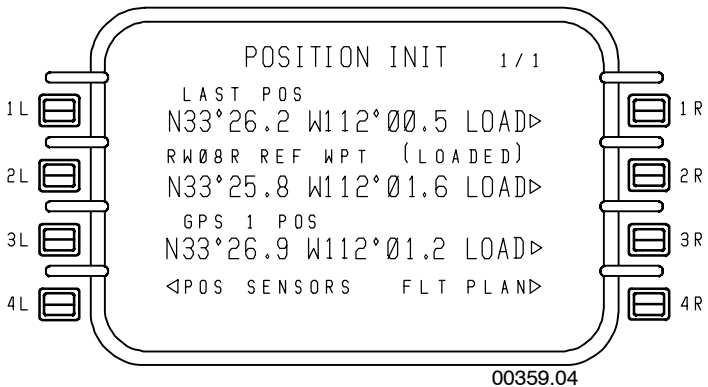

Figure 4-45
- **Threshold Position Update** – Pressing the line select key (2R) adjacent to the runway coordinates will load the runway threshold position into the FMS. This is shown in Figure 4-45. The position is also loaded into sensors set to receive an update.